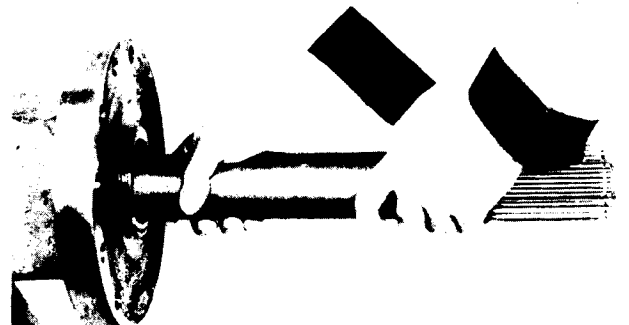

FIG. 166
11. Slide axle shaft into position in axle housing so that splines engage differential side gear. Position shaft so that end having retaining ring groove for sun gear is toward the outside (Fig. 166).